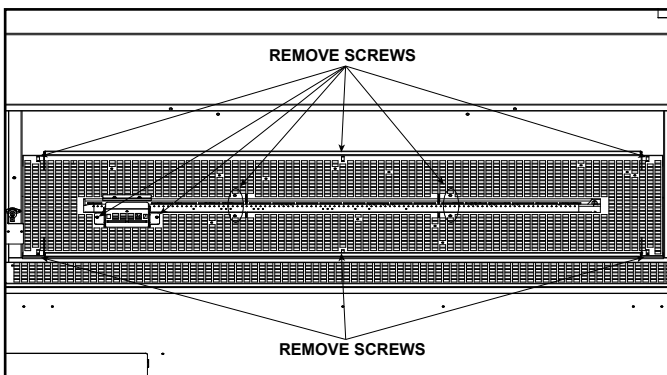

Figure 11.1 Remove Media Tray Screws
1. Remove the screws on the front and back sides of the media tray, pilot shield, and the screws attaching the media tray to the burner legs. Remove media tray from the appliance. See Figure 11.1.
1. Place firebox media tray into appliance. Ensure it is properly positioned over the burner. Install the screws attaching the media tray to the burner legs. Install the screws, removed with the media tray, into the front and back sides of the media tray and attach pilot shield to secure in place. See Figure 11.1.